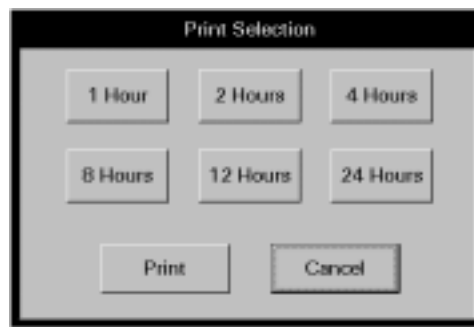

FIGURE 7-14 Print Selection Dialog Box
1. Select the **Print More** sidebar button. The **Print Selection** dialog box (FIGURE 7-14) is displayed.